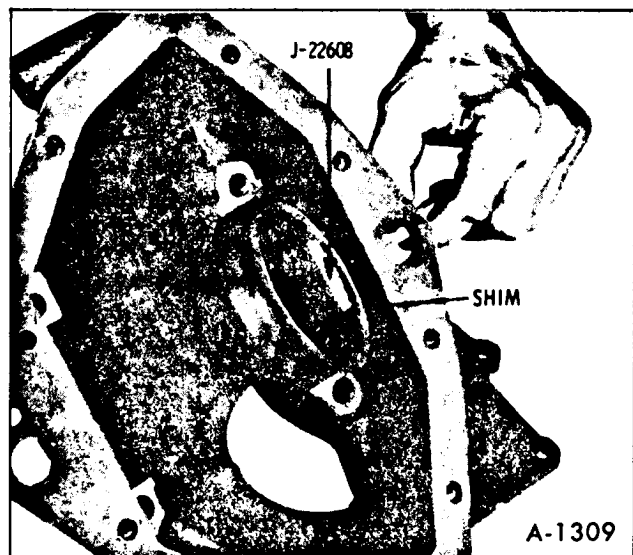

Figure 21—Removing Shims
**NOTE:** Spread housing only enough to relieve tension on the spacer and shims. The shims may be removed with Tool J-22608 as shown in Figures 21 and 22.